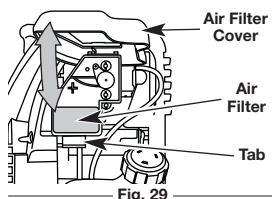

Fig. 29
1. Open the air filter cover. Push the tab on the under side of the cover inward. Then pull the air filter cover out and up. (Fig. 29).
7. Reinstall the air filter cover. Position the slots on the top of the air filter cover onto the tabs at the top of the back plate (Fig. 29).
8. Swing the cover down until the tab on the air filter backplate snaps into place in the slot on the air filter cover (Fig. 29).